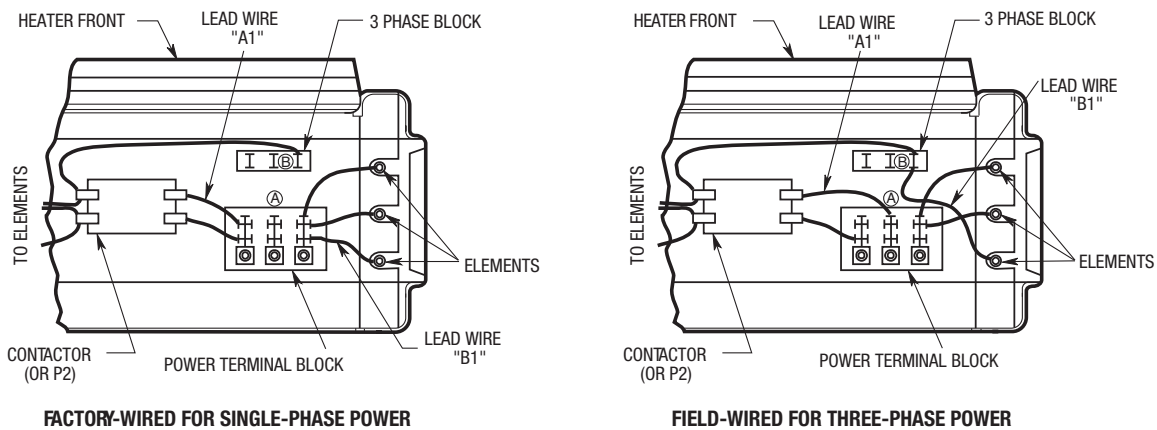

Figure 3a. Wiring Connections for Single-Phase and Three -Phase Power (MUH0521, MUH0581, MUH072, MUH078, MUH102 and MUH108)
- Single or three-phase power connections may be used with heater models MUH0521, MUH0581, MUH072, MUH078, MUH102, MUH108, and MUH158. These units are factory wired for single-phase operation. If these heaters are for use with three-phased power, reconnect the wires as indicated in the wiring diagram attached to the heater. Additional information can be found by looking at the wiring illustrations in Figures 3a and 3b and following the directions shown below.
On models MUH0521, MUH0581, MUH072, MUH078, MUH102, and MUH108 (Figure 3a), move only the two wires marked "A1" and marked "B1"; do not move or change any other wiring. The element lead wire marked "B1" which is factory connected to the power terminal block (terminal located closest to the elements) must be moved to terminal "B" on the three-phase terminal block.